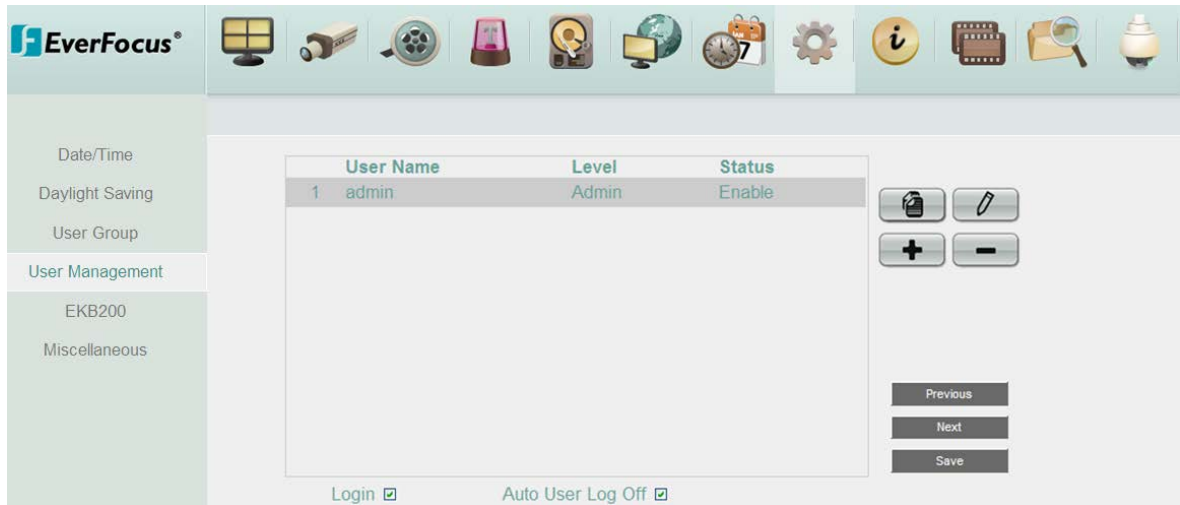

Figure 4-44
1. Click on a user account (Figure 4-44).